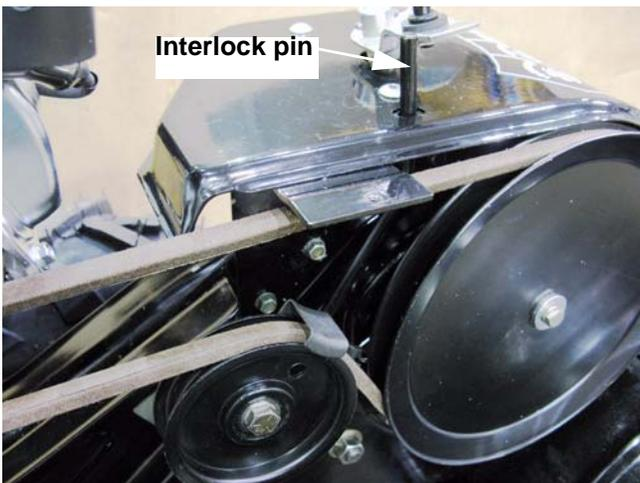

Figure 2.2
4. There is an interlock pin connected to the idler pulley bracket. See Figure 2.2.